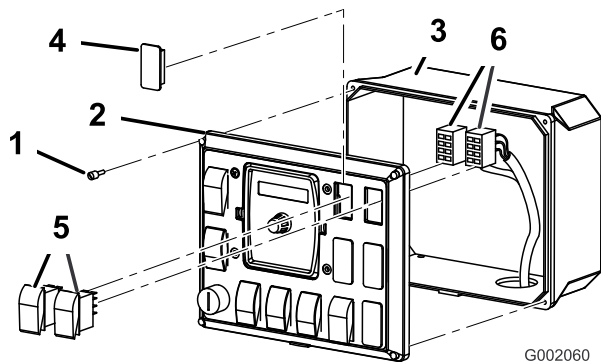

Figure 28
1. Loosen the 4 screws that secure the front panel to the control box (Figure 28).
2. Remove the front panel to expose the inside of the control box (Figure 28).
3. Lift and remove the 2 plugs from the spray control panel on the vehicle, and install the 2 rocker switches provided in their place (Figure 28).